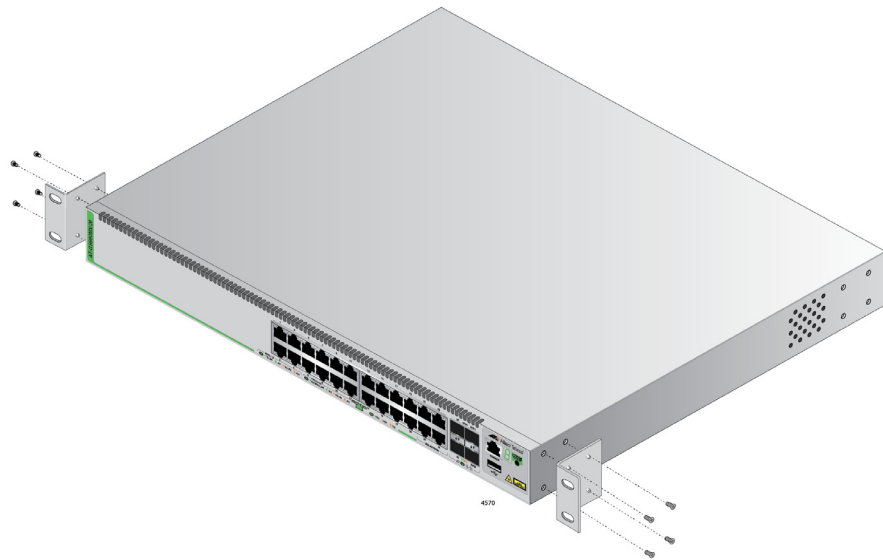

Figure 52. Example of Attaching the Brackets to the Switch
2. Attach the two brackets to the sides of the switch in the selected position, using the eight M4x6mm screws supplied with the unit. The illustration in Figure 52 shows the installation of the brackets such that the front panel of the switch is even with the front of the equipment rack.